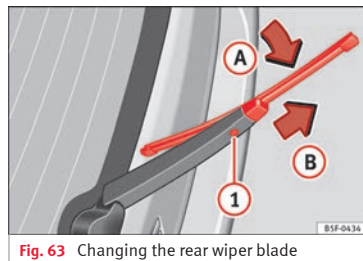

Fig. 63 Changing the rear wiper blade
- Lift the windscreen wiper arm and fold it at an angle of approximately 60° »  Fig. 63.
- Fold the wiper blade towards the windscreen wiper arm »  Fig. 63 (arrow  while pulling in the direction of arrow ). This may require some strength.